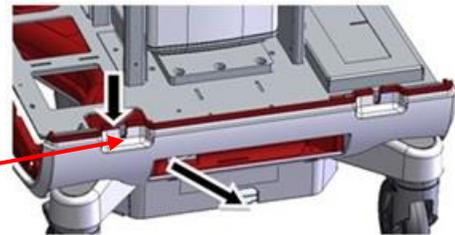

Figure 125: Line Filter Cable
11. Pull out the *power filter to ICL cable* (PN 6664) from the opening as shown in Figure 125.
2. Route the Power filter to ICL cable (PN 6664) at the opening shown in Figure 125.